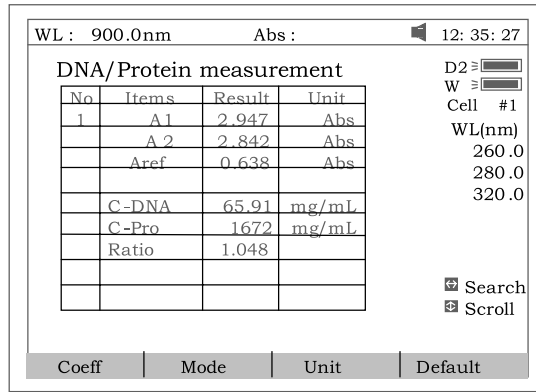

Fig 64
5. Pull the sample cuvette into the light path, press **[START/STOP]** to test the sample. The test result will be displayed on the screen (Fig 64).